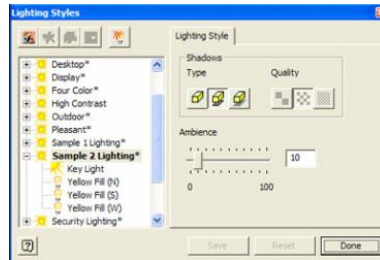

Figure 7: Select from a wide range of lighting effects, and then customize shadows and ambience for even greater realism
- Open the Lighting dialog box. You can preview the pre-defined lighting options by activating any of them in the scroll-down box (figure 7).